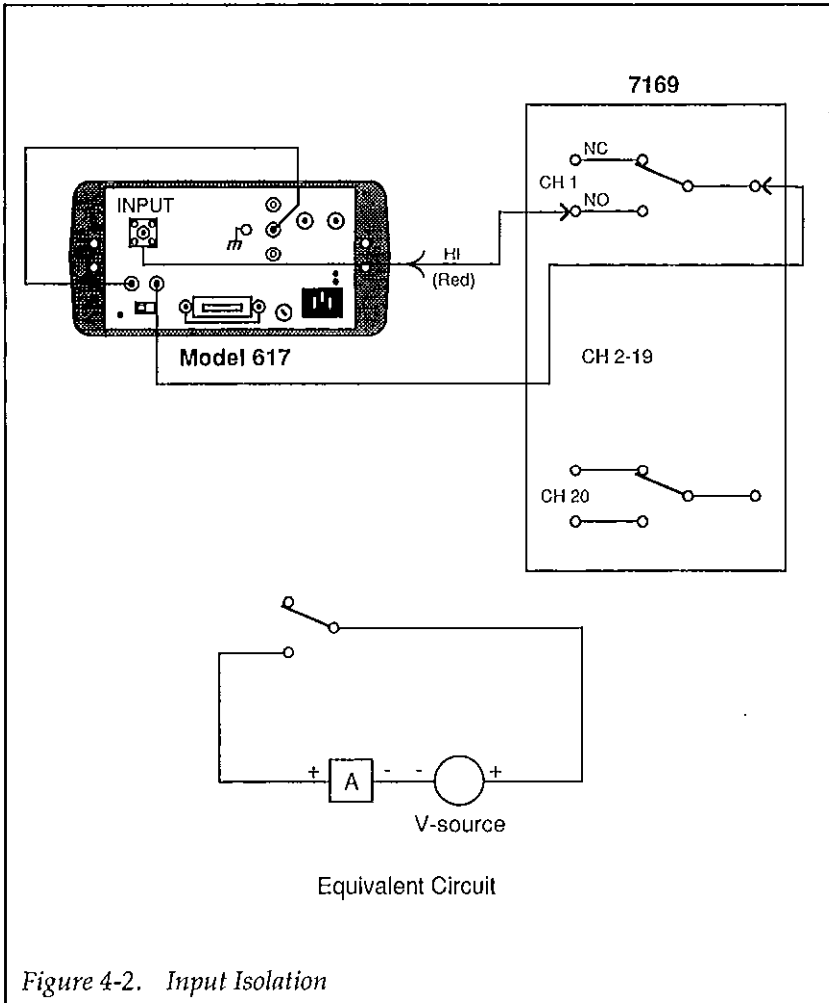

Figure 4-2. Input Isolation
Referring to Figure 4-2, perform the following procedure to check differential input isolation:
1. Using Table 4-2 to identify scanner card terminals, connect the Model 617 to the scanner card as shown in Figure 4-2.